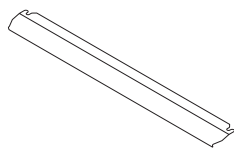

Figure 26
1. A safety panel is designed to protect control panel and the buttons when the oven is in grill mode. (figure 26)